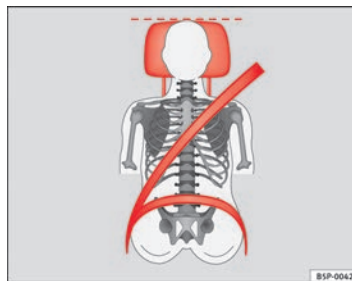

Fig. 12 Correct seat belt and head restraint positions, viewed from front
- The shoulder part of the seat belt must lie on the centre of the shoulder, never across the neck. The seat belt must lie flat and snugly on the torso ⇒ page 25, fig. 12.